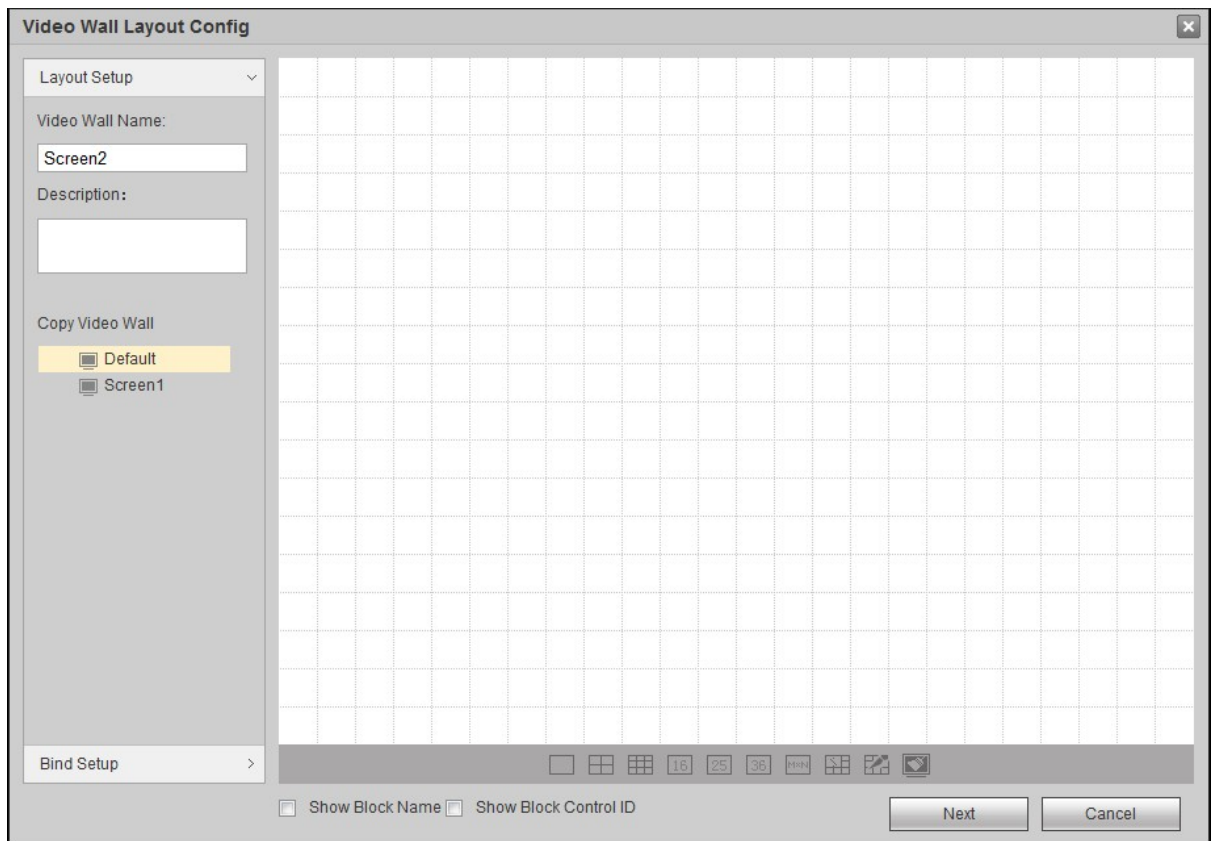

Figure 4-94
Step 1 Click “Add Video Wall”. The system displays “Video Wall Layout Config” interface, as shown in Figure 4-94.